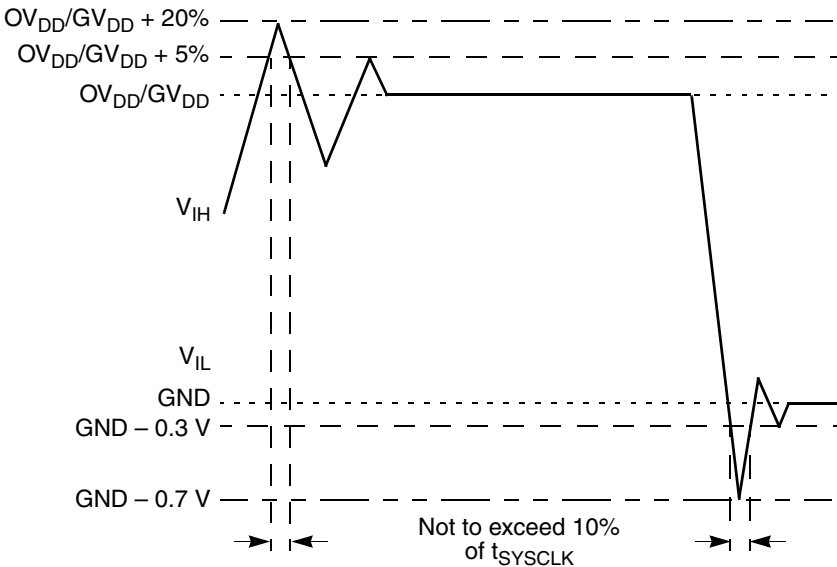

Figure 2. Overshoot/Undershoot Voltage
- $V_{in}$  may overshoot/undershoot to a voltage and for a maximum duration as shown in Figure 2.
Figure 2 shows the undershoot and overshoot voltage on the MPC7457.